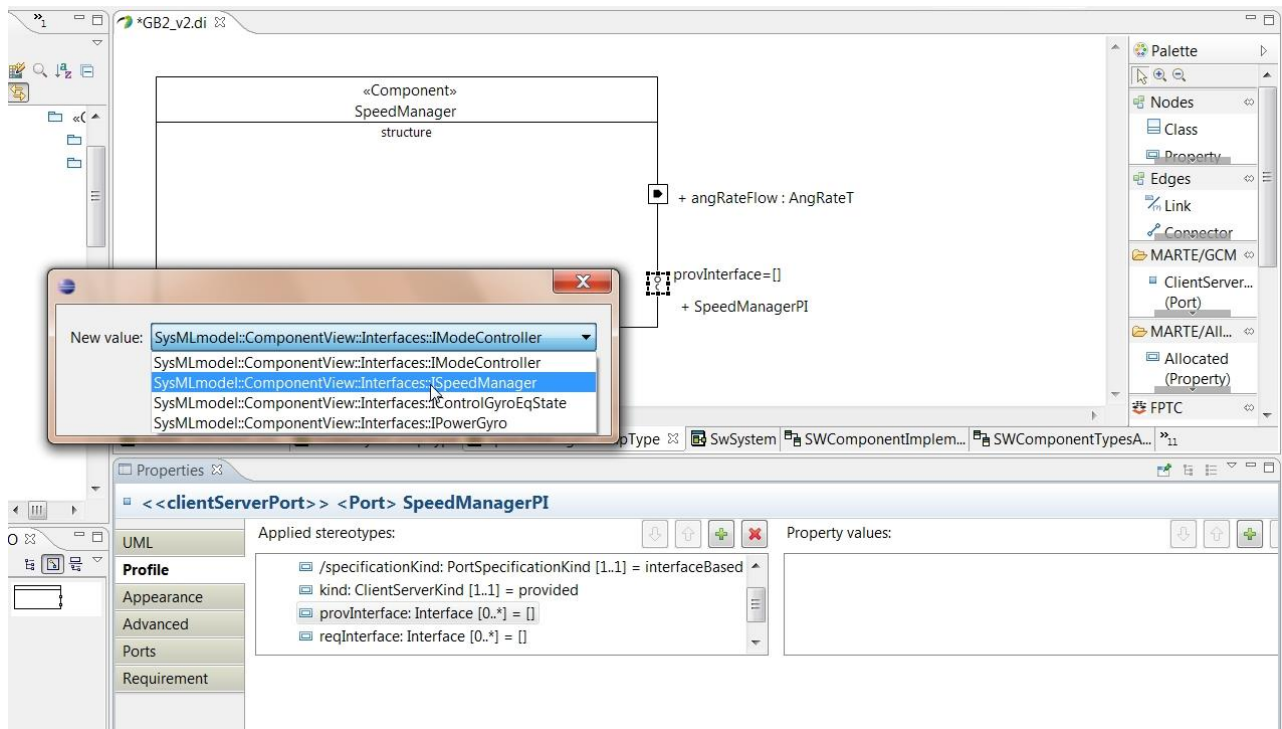

Figure 13 Selection of Provided (or Required) Interface for a Client Server Port
- Set the value of property “provInterface” or “reqInterface” (according to the value of the “kind” property) selecting an interface from the dialog window as shown in Figure 13.